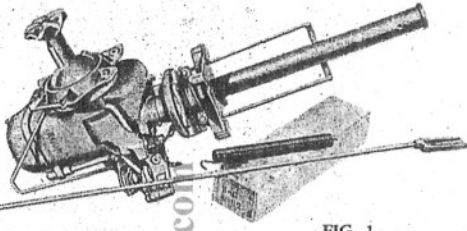
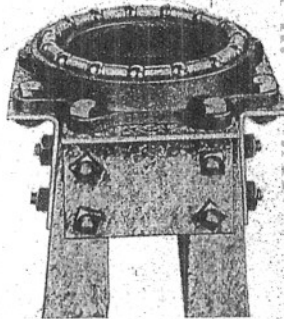

FIG. 1
FIG. 2
- Remove all castings from the pipe, (Fig. 1), and proceed to attach the tower plates to the top of the tower with $\frac{3}{8}$ inch x $\frac{3}{4}$ inch carriage bolts. Before tightening, attach the lower ball race to the top of the plates with $\frac{3}{8}$ inch x 1 inch machine bolts and tighten all nuts. (Fig. 2.) Next, attach lower tower casting to tower using $\frac{3}{8}$ inch x $1\frac{1}{4}$ inch bolts for 6 $\frac{1}{2}$ foot and 8 foot mills and $\frac{1}{2}$ inch x $1\frac{1}{2}$ inch bolts for 10 foot mill.